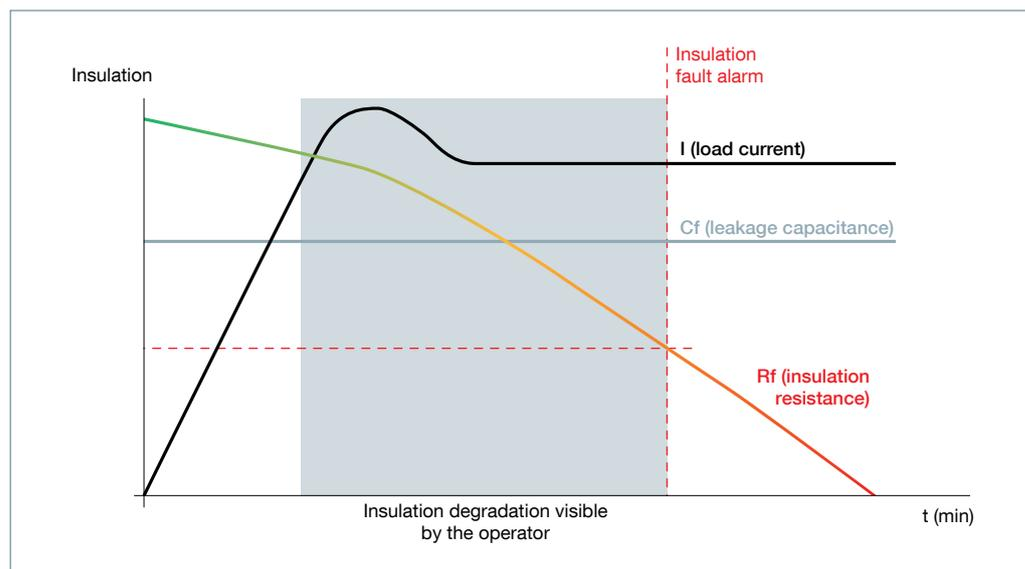

Fig. 11 - Focus on the circuit presenting insulation degradation.
- the ISOM Digiware F-60 modules are distributed throughout the installation close to the loads to measure the insulation and locate faults. They monitor the insulation of individual circuits over time to prevent any degradation (Fig. 11),